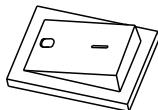

Figure 1
1. Plug the power cord into the electrical outlet, make sure the I/O (ON/OFF) switch is in the O (OFF) position. (See Figure 1)